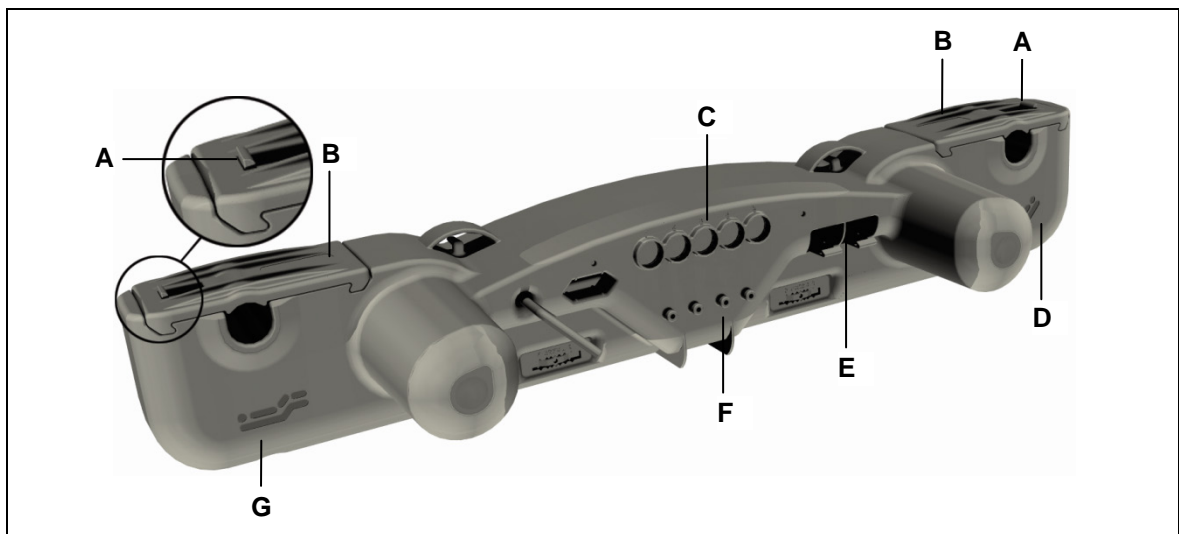

Figure 3 Main components of the OKIMAT 8 double drive
- 3 Align the OKIMAT 8 next to your product. The slots for the back and leg sides must be properly aligned with the correct brackets on your end product (refer to the symbols on the OKIMAT 8 as described in Figure 3).